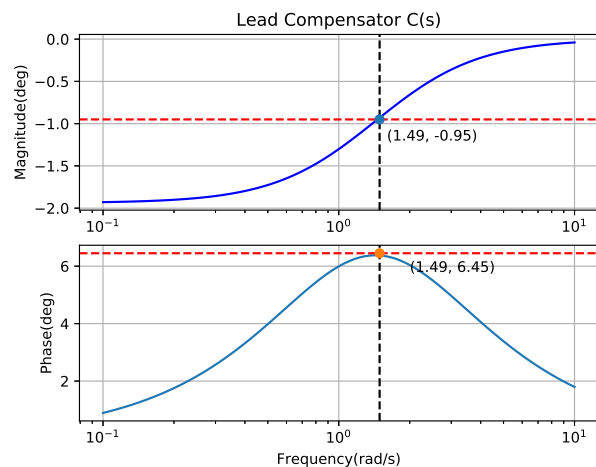

Fig. 2.2
2.3. Plot overall graph after adding lead compensator. Refer Fig2.2 for plot  $C(s)G(s)$ .